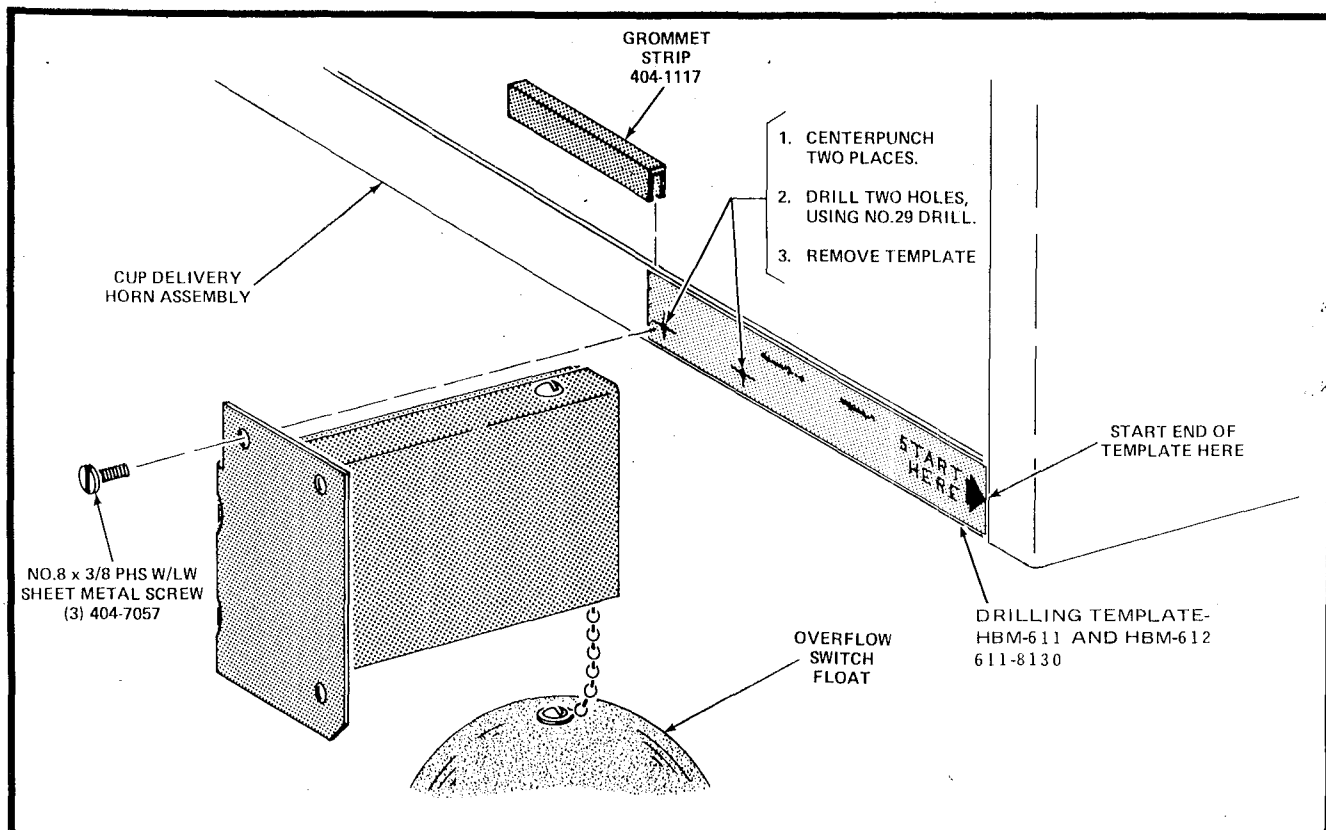

FIGURE 3
3. Remove the remainder of the backing and carefully press the Template into place. Be sure to keep edge of the Template even with edge of the flange. See Figure 3.
4. Centerpunch two places shown on Template. See Figure 3.
9. Position the Overflow Switch Assembly, as shown in Figure 3, and attach to the flange of the Cup Delivery Horn Assembly using two No.8 x 3/8 PHS W/LW Sheet Metal Screws, Part Number 404-7057, included in the Kit.
10. Install the 2-3/16 inch Grommet Strip, Part Number 404-1117, included in the Kit, on the flange just to rear of the installed Bracket. See Figure 3.